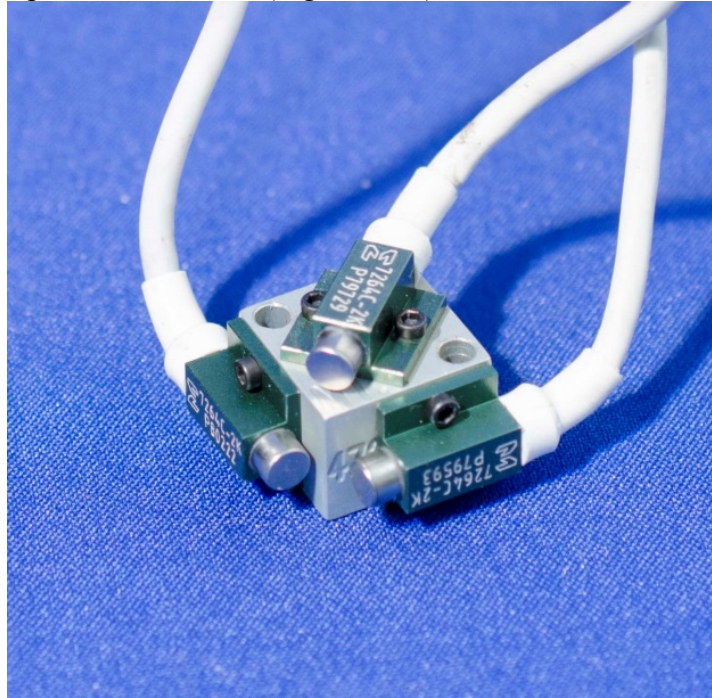

Figure 6-29. Attach accelerometers to mounting block
- 6.2.2.22 Attach three uniaxial accelerometers (SA572-S4) to an S4 Triaxial Accelerometer Metric Mounting Block (SA572-S80M) using two M1.4 x0.3 x 3 SHCS per accelerometer (Figure 6-29).
- 6.2.2.24 Attach three uniaxial accelerometers (SA572-S4) to an S4 Triaxial Accelerometer Metric Mounting Block (SA572-S80M) using two M1.4 x 0.3 x 3 SHCS per accelerometer (Figure 6-29).